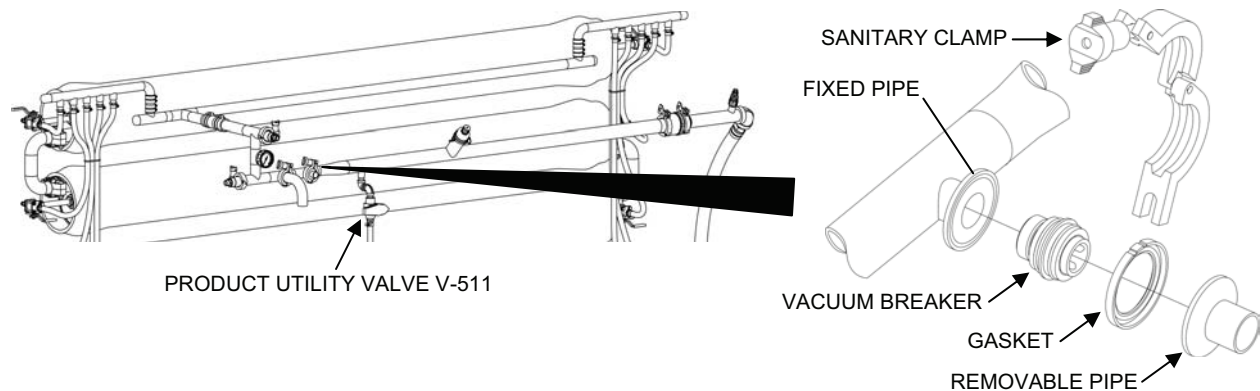

Figure 10. Product Vacuum Breaker VB-501 Replacement.
1. Remove Product Vacuum Breaker VB-501 as follows (see Figure 10):